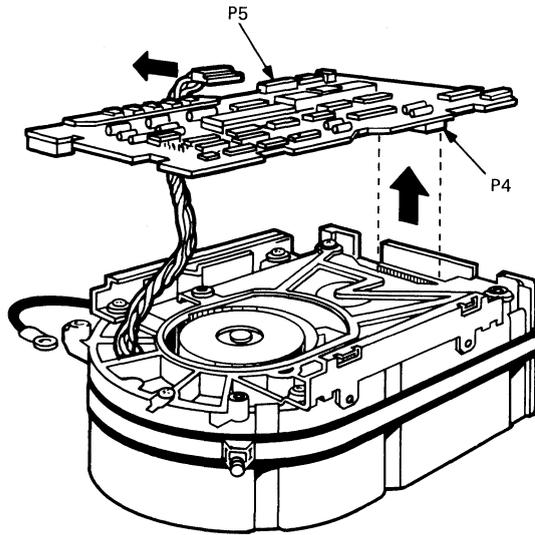

Figure 6-14 Remove the MPCB
6. Lift the MPCB straight up until it clears the chassis. This disconnects P4, a 12-pin fixed plug (Figure 6-14).